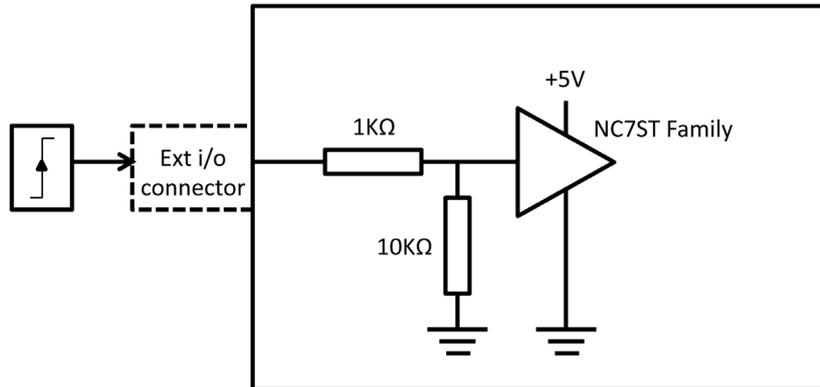

Figure 5: External Trigger
1. Carefully remove the black grommet(s) as shown in **Figure 5**.